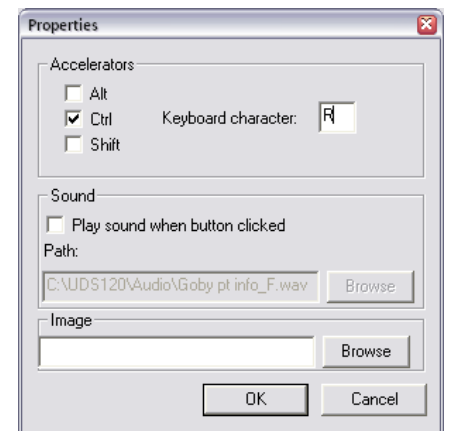

Figure 85: Properties Window
3. The *Properties* window will appear (Figure 85). Select a key combination that will correspond to the control panel button. In our example, we will apply a shortcut key combination of CTRL+R to the *First Sensation* button.